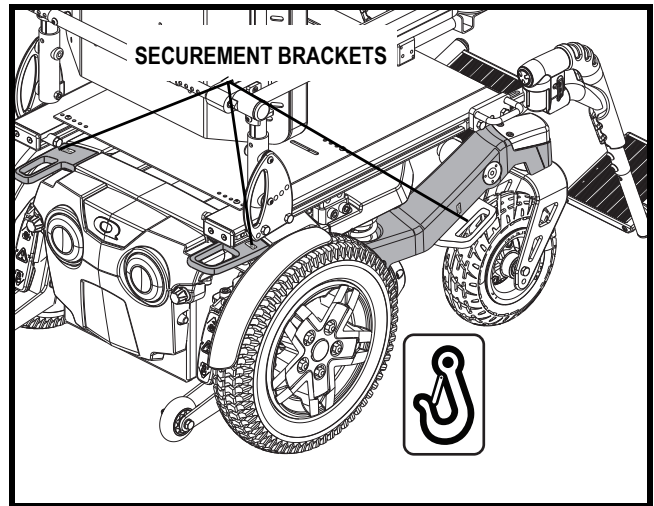

Figure 7. Transit System Securement Brackets
- Attach the four tie-down straps only to designated, labeled transit securement points indicated by anchor symbols on the power chair. See figures 7 and 8. Tighten the straps to sufficiently remove all slack.